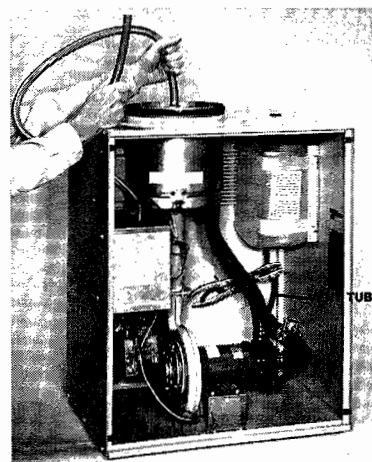

FIGURE 30
PROCEDURE: (1) Pinch off rubber vent tube. (2) Remove tube from top of module and replace plug. (3) Keep vent tube and charging hose pinched off. (4) Lower charging bucket below level of charging tee. (5) Remove charging hose and replace rubber plug. (Fig. 30)